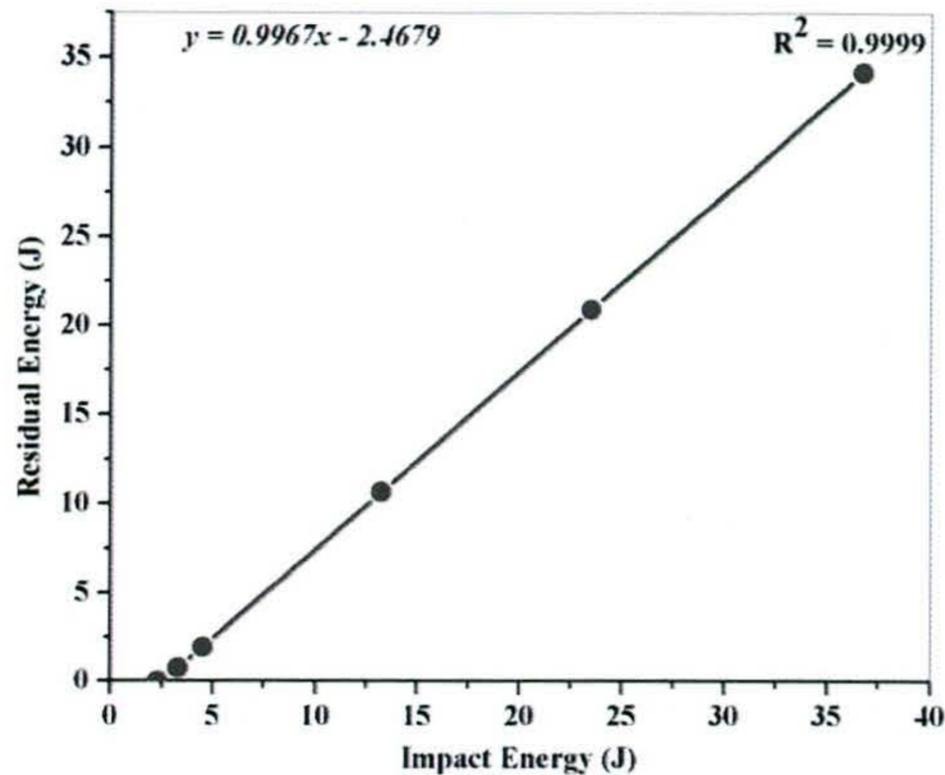

Figure Q4b) Plot of residual energy against impact energy
- b) High velocity impact testing was performed on a biopolymer composite material using a laboratory high speed gas gun. A hemispherical shaped mild steel projectile of mass 7.34 g, diameter of 9.6 mm and length of 15.5 mm was used during the test. Figure Q4b) shows a plot of the biopolymer composite material's residual energy against impact energy.
Using information from Figure Q4b) and showing all your calculations: